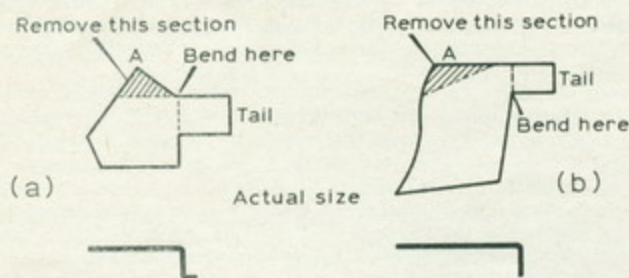
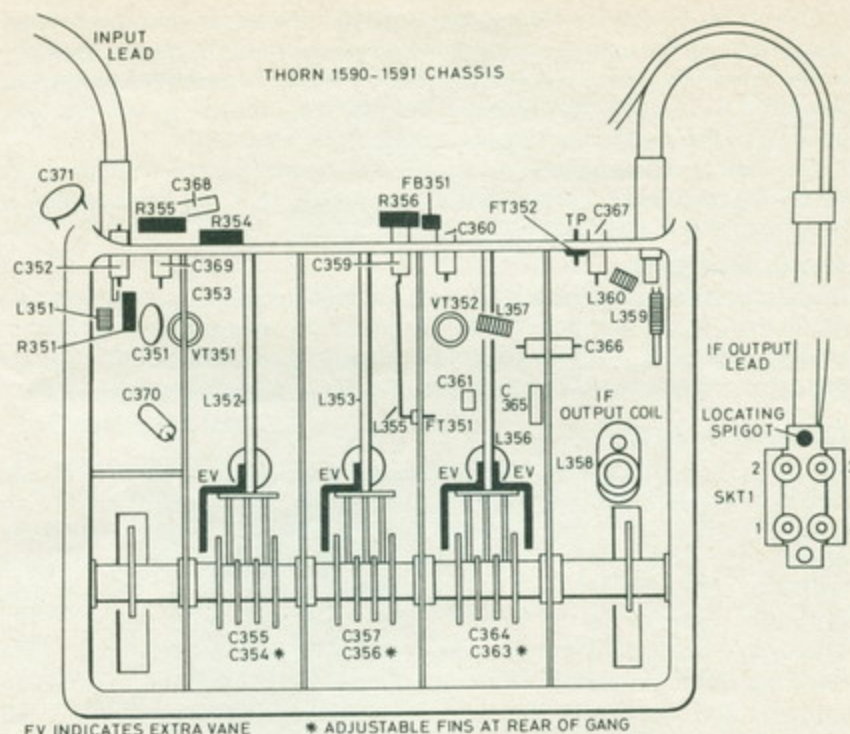

Fig 1. (a) The shape of the extra vane to fit one common tuner. (b) The shape of the extra vane to fit the tuner of the VL100 and other receivers
Fig 2. The extra vanes shown fitted to a Thorn 1590-1591 chassis
Using tinsnips, cut out the extra vanes from thin tinplate. The author finds the tinplate from the sides of an old varactor tuner to be ideal for this job. Fashion these new vanes to the same dimensions as the existing static vanes, but leave a long tail as shown in Fig 1(a), then cut away the section marked (A) in Figs 1(a) and (b). Make four or five of these vanes and bend them as shown. Having removed the tuner lid, solder one vane to the end of each lecher line, making sure that the moving vanes have clearance throughout their travel. Most tuners require two extra vanes in the oscillator section, one on each side of the rotating vanes (See Fig 2).
The latest addition to the author's tv receiving equipment is a Rigonda 6in portable (battery/mains) model VL100. These receivers became very popular a few years ago after being advertised on the back of cornflakes packets! There are still quite a few of these particular models around, and they are available quite cheaply on the second-hand market. Fig 1(b) shows the shape of the extra vanes for the VL100 and is drawn to actual size. The tuner used in this model is of British manufacture and requires only one extra vane in the oscillator section.
Other television receivers use the same model of tuner unit as the VL100, notably the full range of GEC (valve and hybrid) monochrome and colour chassis. Again the actual size drawing in Fig 1(b) can be used as a template, only one extra vane being required in the oscillator section.